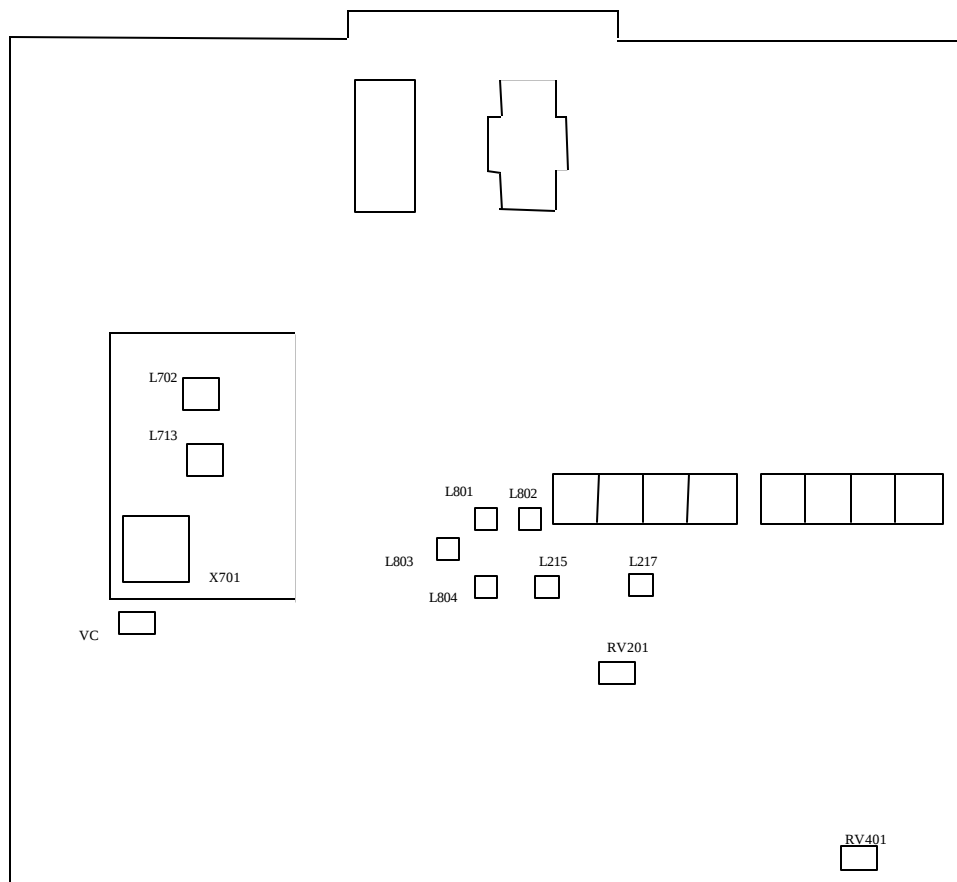

Figure 2-2 Adjustment Map TR-055 Board
- 6 Adjust the pulse generator to obtain a 10 nsec wide pulse, as shown in Figure 2-2. Set the pulse period controls to obtain 200 u sec between pulses (the pulse period is easier to observe on an oscilloscope if the pulse width is temporarily increased by about 10 times.)